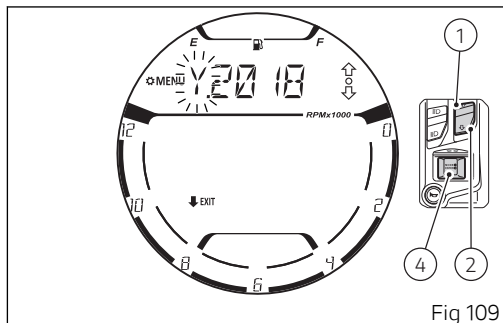

Fig 109
By pressing button (1) or button (2) the letter "Y." will start flashing (Fig 109). Now, still using button (1) or button (2), it is possible to scroll through the items year "Y.", month "M." and day "D." displayed flashing and with the currently set values.